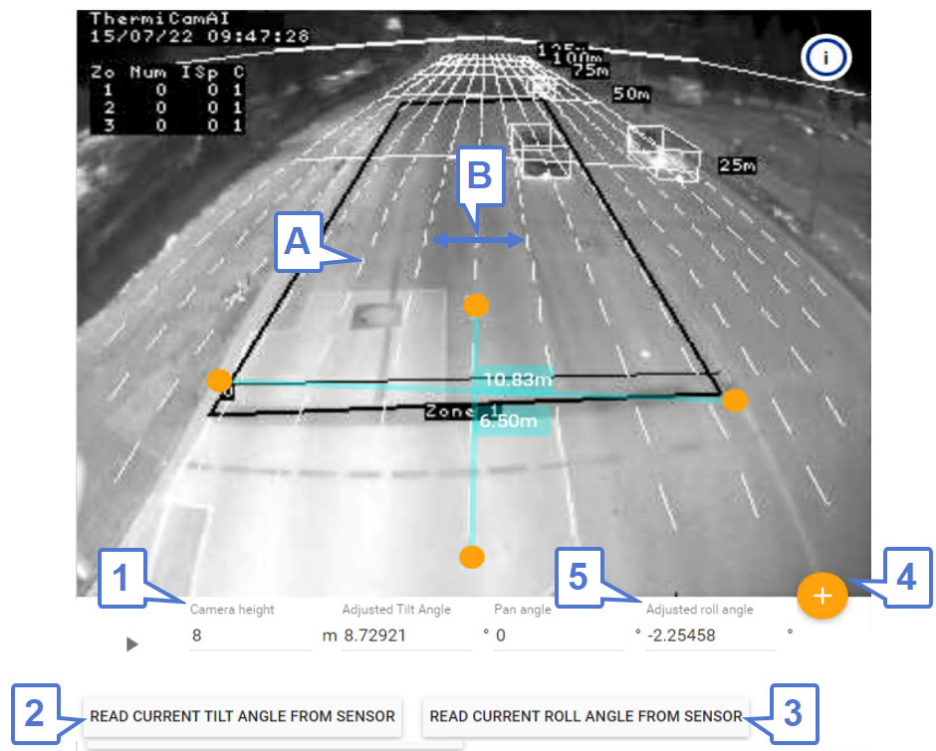

Figure 16.1 Calibration steps
- The horizontal distance between 2 vertical lines is 1,5m, 3 vertical lines (B in Figure 16.1 below), which are 3m wide, roughly correspond to the width of a traffic lane.